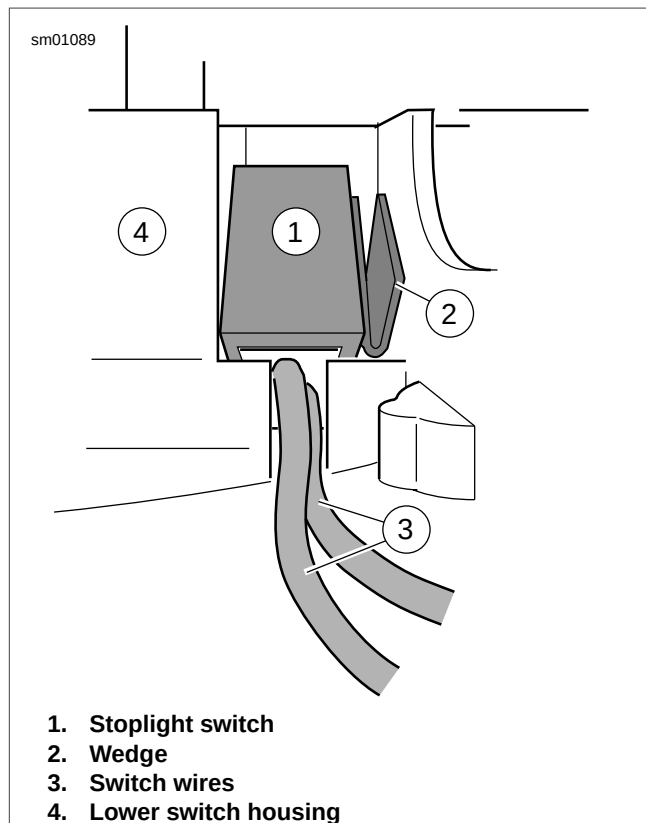

Figure 6-145. Install Stoplight Switch
7. See Figure 6-145. Push down on switch (1) so that it bottoms against housing and wires (3) run in groove at base of cavity. With the concave side facing outward, insert wedge (2) between switch and outboard side of switch housing.